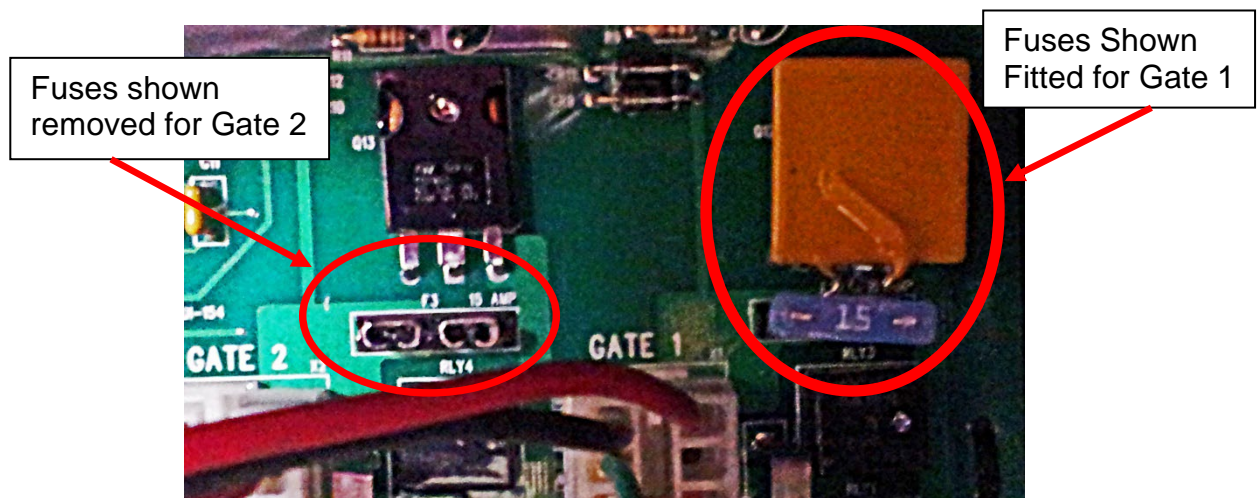

Figure 6 - Location of the Actuator Fuses
- 5.8 If the clicking is not heard examine and test the two 15-amp fuses mounted above 8-way X1 and X2 actuator plug sockets (Figure 6).